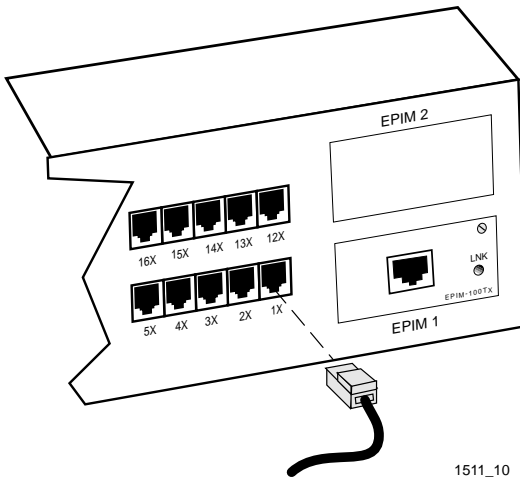

Figure 5-1 SEH Network Ports
1. Plug the RJ45 connector from each twisted pair segment into the desired network port on the SEH. See Figure 5-1.